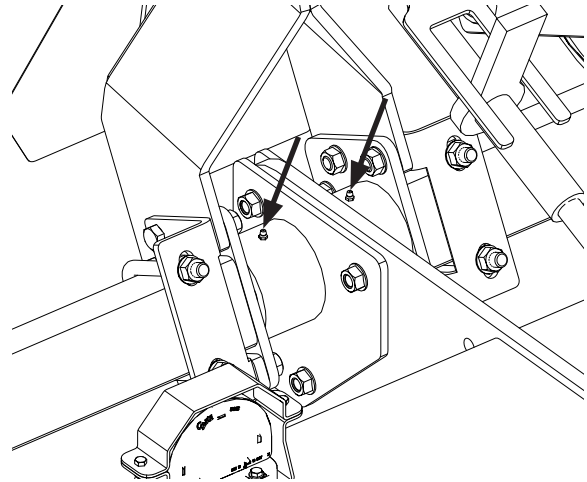

Figure 29. Rockshaft Pivot Lubrication Points
3. Lubricate Rockshaft pivots (4 to 8 locations). See Figure 29.